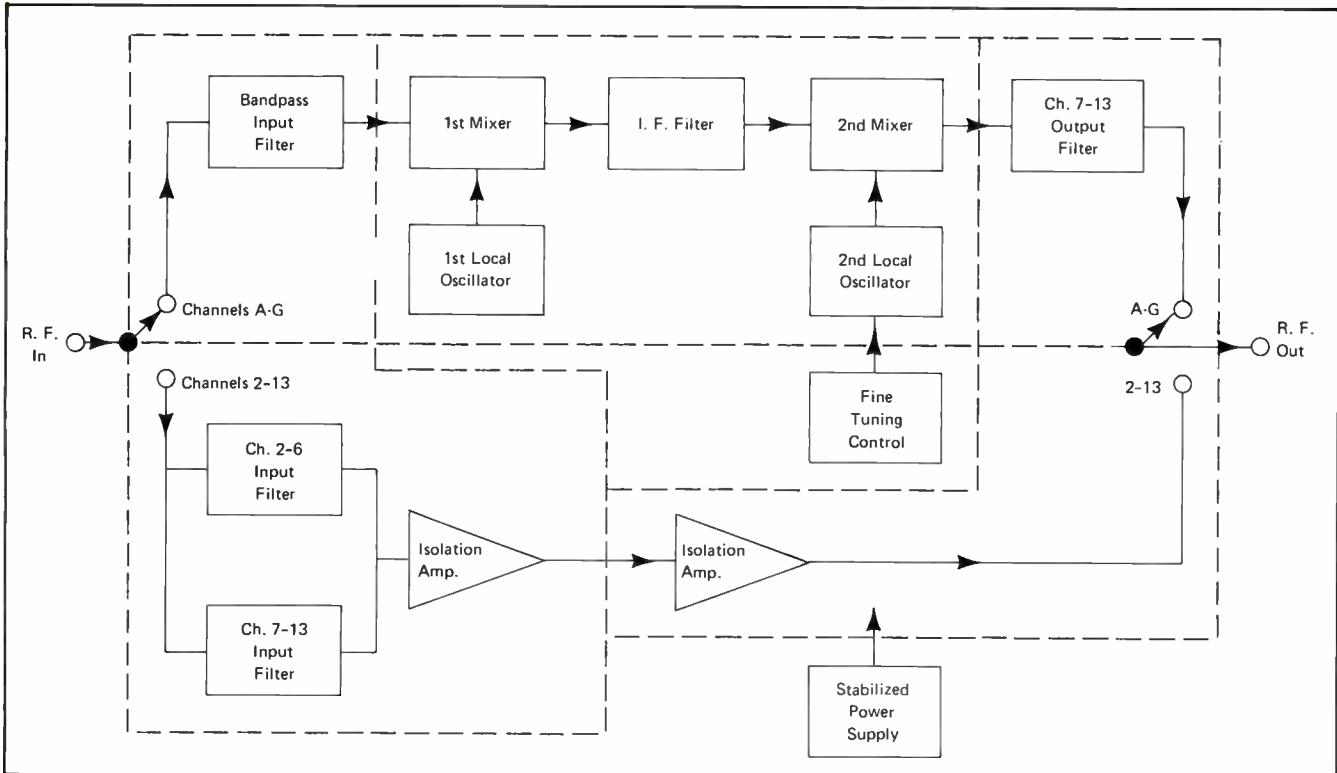

Figure 2. Oak Econobloc Converter Functional Block Diagram
**ECONOBLOC.** The Oak Econobloc converter block diagram is shown in Figure 2. It passes the standard VHF cable channels 2-13 unconverted, through an isolation amplifier, and converts seven midband channels A-G (or B-H, or C-I) to channels 7-13 when the band-switch is in midband position. Channel I is not recommended for pay signals because some TV receivers can be retuned to receive the channel allowing a subscriber to avoid payment of additional charges.